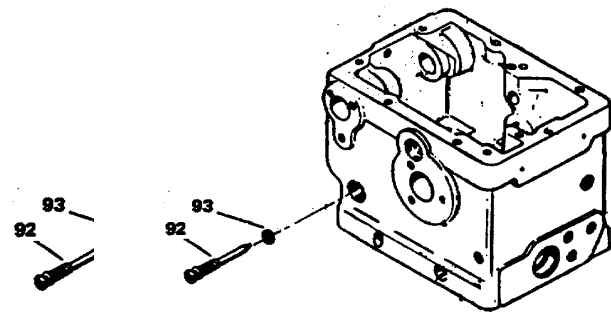

Figure 12-13. Needle Valve Assembly
(8) Assemble needle valve (92) in case (figure 12-13).